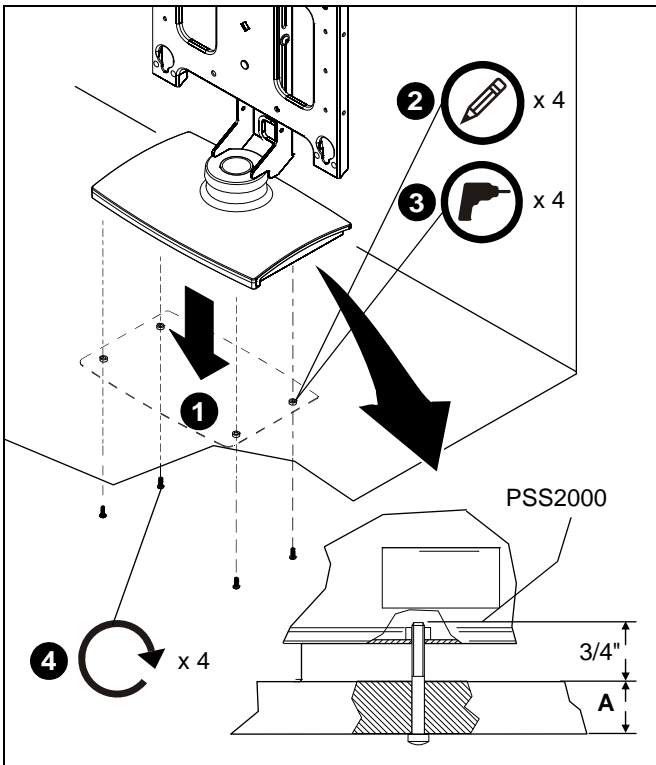

Figure 4
2. Measure the hole locations on bottom of PSS2000 and mark the four mounting hole locations on mounting surface. (See Figure 4)
4. Secure mount to mounting surface using four 1/4-20 cap screws with a length equal to the thickness of the mounting surface **A** plus 3/4". (See Figure 4)